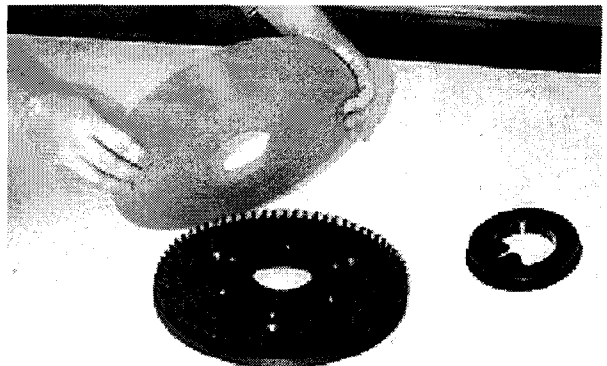

FIG. 8
- (For Pad Installation)** Attach pads to pad drivers before connecting drivers to motor hub. Remove plastic centerlock ring from pad driver and position pad on pad driver and replace centerlock ring (*Figure 8*).